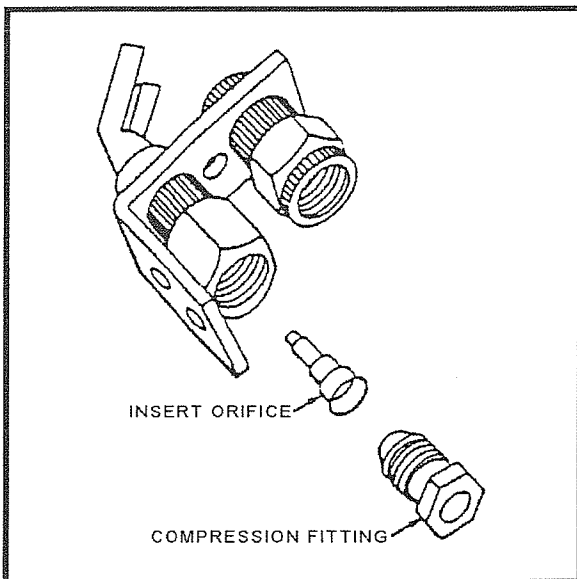

Figure 1 - Q314A or Q3451B
2. Determine the pilot burner type (stamped on pilot burner bracket), either Q314A or Q3451B. Replace the natural gas pilot orifice with the enclosed propane gas pilot orifice BDR-12 . See figure 1.